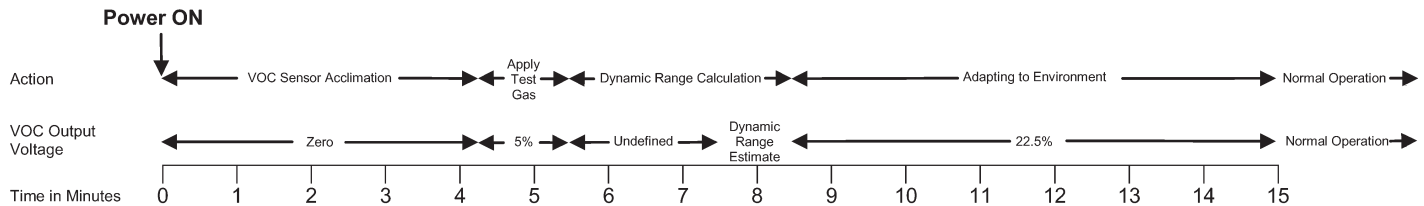

Fig. 10: Sensor Start-up Timeline
At each power up, the sensor enters the start-up period for 15 minutes. The VOC output will follow the timing shown in Figure 10. During the start-up period, an optional verification/commissioning test, described below, may be performed. This test is not mandatory. It is necessary only if building commissioning requires sensor verification or if verification of VOC output is required for later troubleshooting.
- Remove sensor power for at least one minute and reapply. The VOC sensor will set the VOC output to zero volts. (Power ON in Fig. 10)
- The 5% output voltage confirms that the VOC sensor is in its verification/commissioning test. (Apply Test Gas in Fig. 10.)
- Read and record the VOC output voltage approximately 2 to 4 minutes following the stimulus gas application to determine the dynamic range measurement. (Dynamic Range Estimate period in Fig. 10)